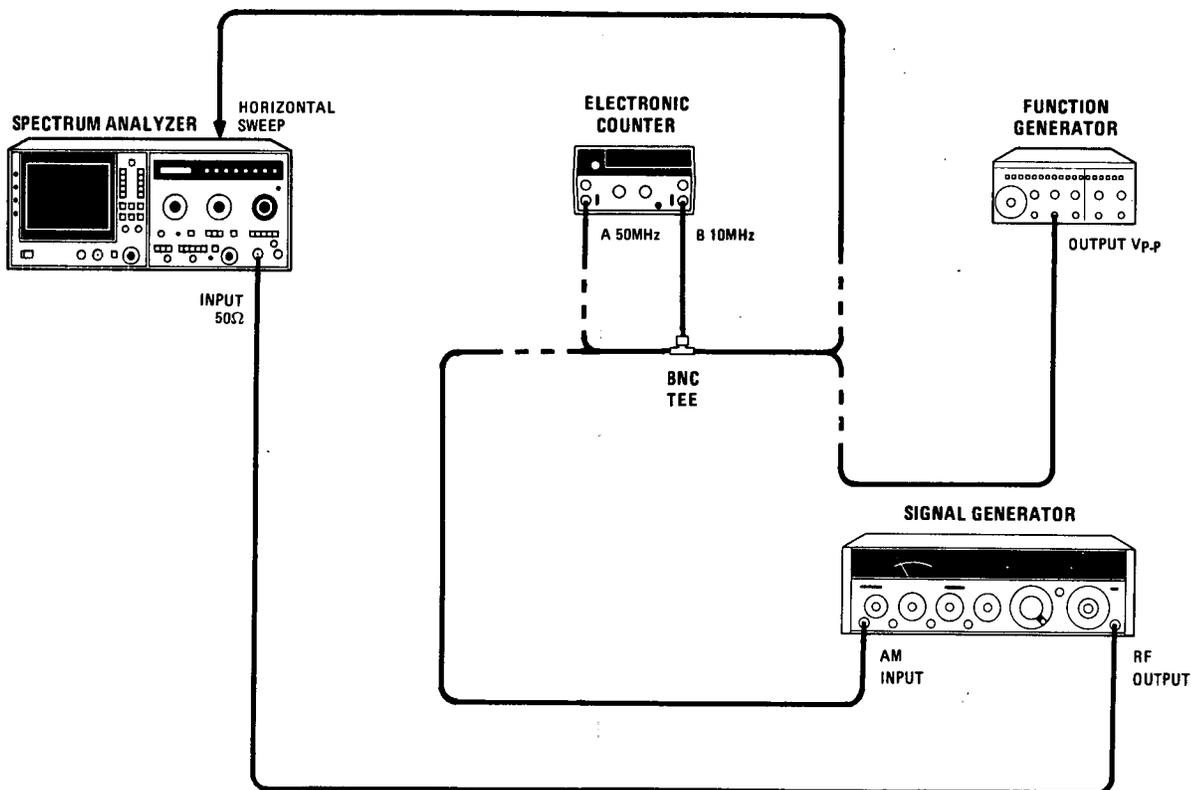

Figure 4-21. Sweep Time Accuracy Test Setup
2. Connect RF OUTPUT of signal generator to INPUT 50Ω of spectrum analyzer (see Figure 4-21). Connect BNC tee connector to B 10 MHz input of counter. Connect one side of BNC tee to OUTPUT Vp-p of function generator. Connect other side of BNC tee to AM INPUT of signal generator.